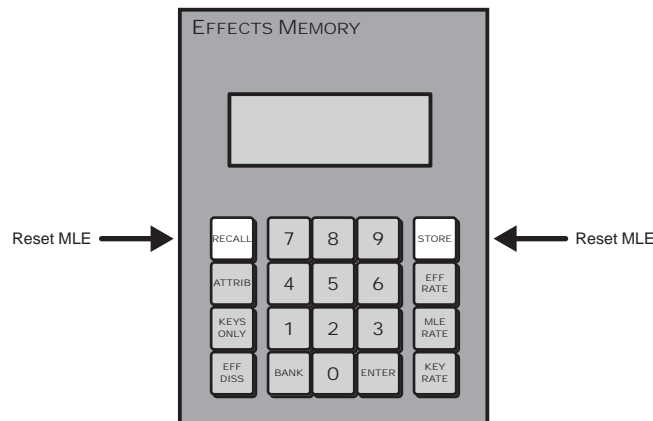

Figure 2.11 Press to Reset an individual MLE
- Press and hold both the **Recall** and **Store** buttons in the **Effects Memory Module** (**Figure 2.11**).